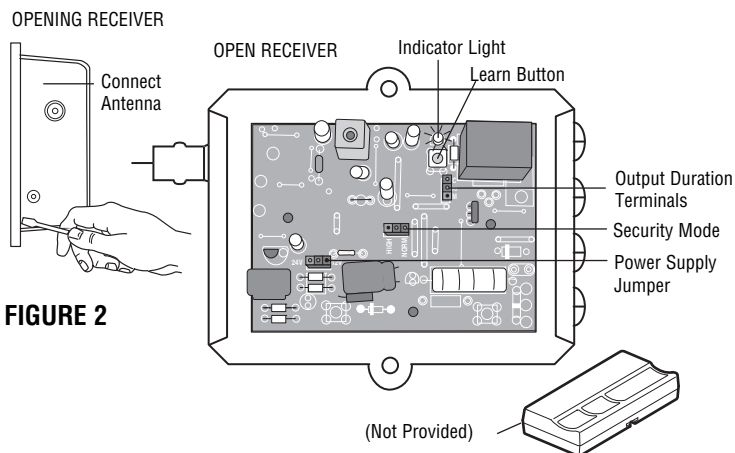

FIGURE 2
1. Pry open the front panel of receiver case with a coin or a screwdriver. Re-connect power to opener (Figure 2).
Gate will open when activated by an access control device. When timer expires (if used), gate will close (Figure 2).